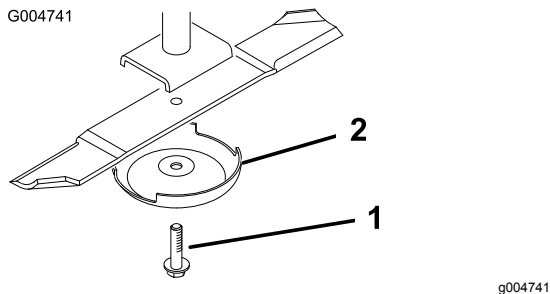

Figure 138
4. Grasp the end of the blade using a rag or thickly padded glove and remove the blade bolt, anti-scalp cup, and blade from the spindle shaft (Figure 138).